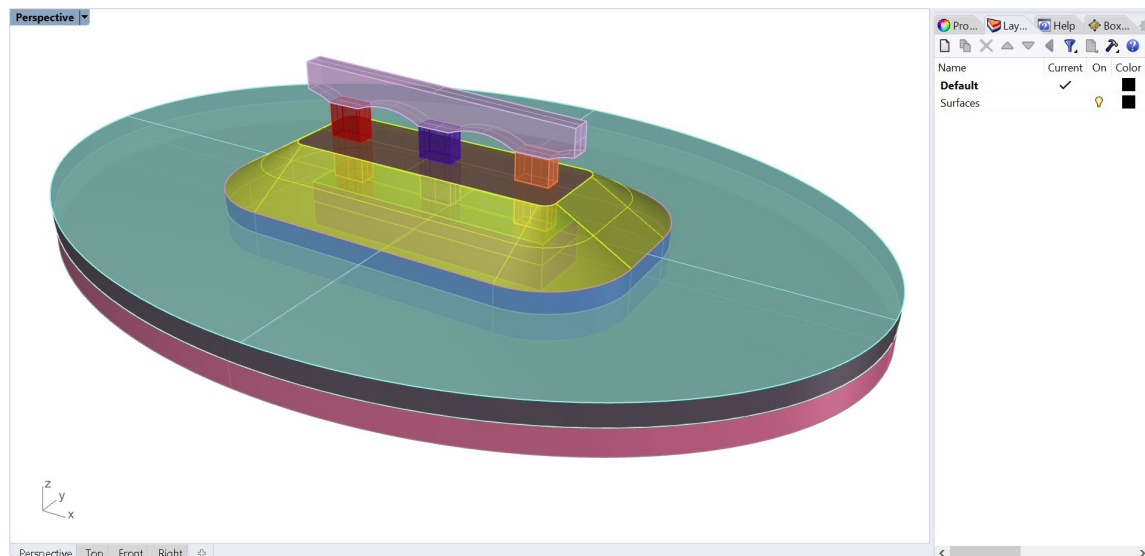
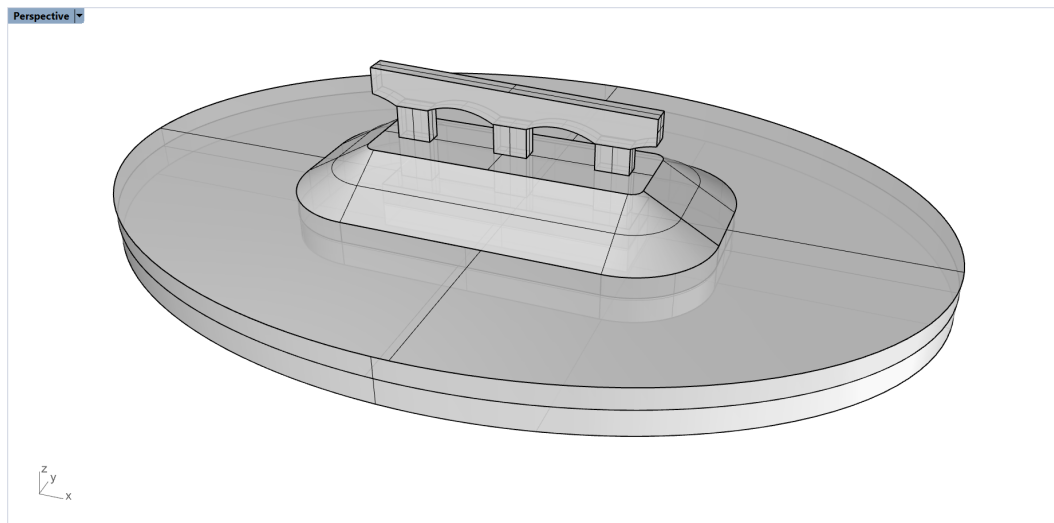

Figure 18: Model of a bridge support structure.
Figure 27: Single polysurface constructed by the *NonManifoldMerge* command.
2. The model represents a part of a complex bridge support structure as shown in Figure 18. The model consists of 13 surfaces, seven polysurfaces, and two extrusions represented by BRep objects. Note how the objects are split by each other (e.g., the top light blue surface is split in three pieces); this is done for better meshing results.
The typical approach to construct meshes when starting with initial (poly)surfaces such as in Figure 18 consists of the following:1
17. Select all objects in layer “Surfaces” (as in Figure 18) and use command **\_NonManifoldMerge** (  ) to create a single non-manifold polysurface (Figure 27). The new polysurface is placed into the current layer (“Default”); move it back to the “Surface” layer by changing the object layer assignment in the *Properties* pane (**F3**).